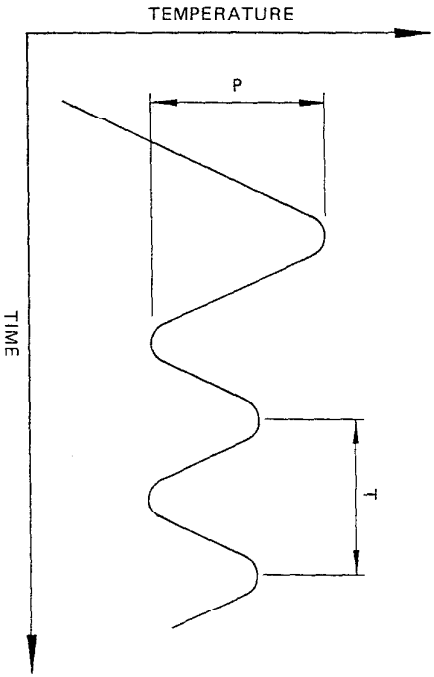

FIGURE 4-3 OPTION 2 SETTING UP PROCEDURE
- a) The peak to peak variation (P) of the first cycle (i.e. the difference between the highest value of the first overshoot and the lowest value of the first undershoot).
- b) The cycle time (T) of this oscillation in minutes (see Fig. 4-3).